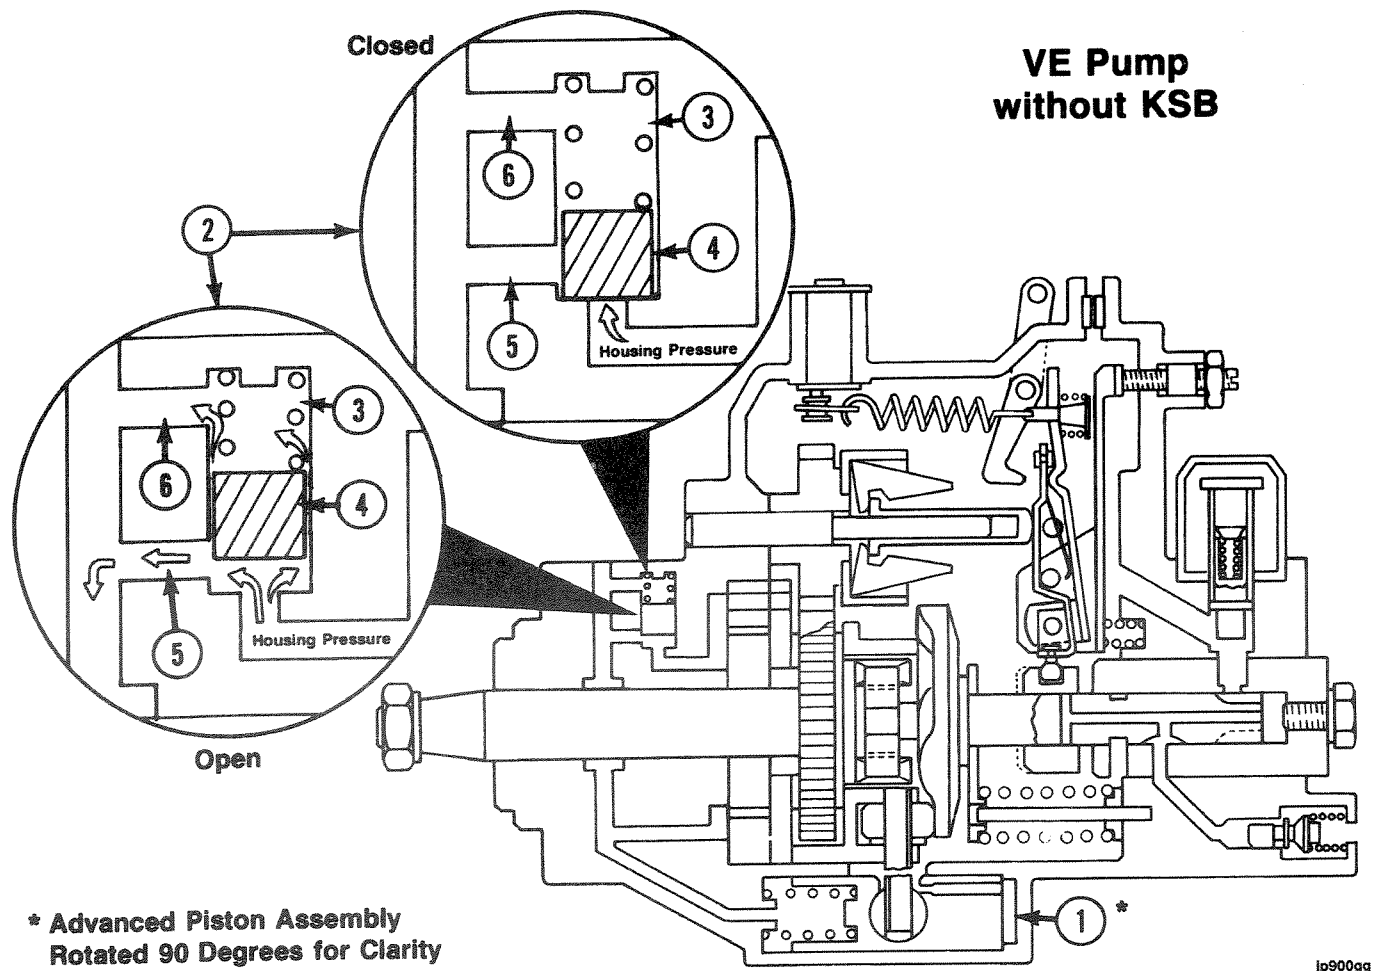
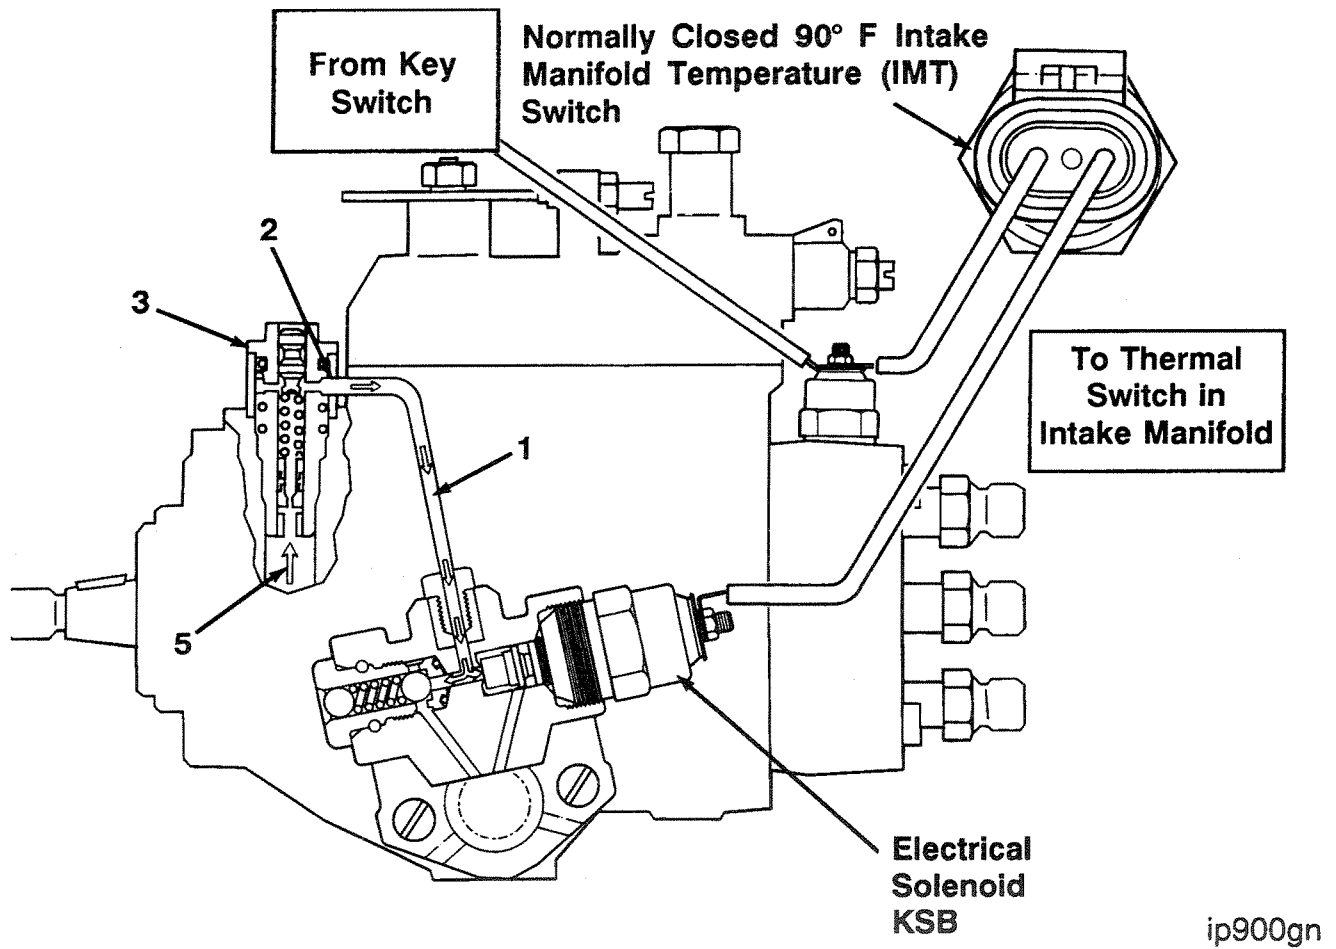

Figure 1, VE pump timing, regulated by opening and closing the pressure regulator valve
Figure 3: Cold Engine Operation (Less Than 90°F IMT), Advanced Timing
Pump housing pressure acts on an internal timing piston (1), Figure 1, to partially advance the injection timing at idle, and fully advance the timing when the engine RPM reaches approximately 60% of rated speed. As pump pressure increases, timing advances.
The KSB introduces a new fuel line (1), Figure 2, which routes fuel from the relief port (2) of the pressure regulator valve (3) to the plunger end (6), Figure 3, of the electrical solenoid, bypassing the normal return passage (6), Figure 1.
With the key switch on, current flows from the key switch line to the 90°F normally closed intake manifold switch to the 12V electrical KSB solenoid (see Figure 2). When the engine starts the pressure regulating valve (3) attempts to regulate fuel pressure as before (without KSB) but the fuel from the relief port (2) now meets a 'dead end' at the plunger of the KSB solenoid (6), Figure 4. With the key switch on, the plunger moves outward and closes off the flow of the fuel (8), Figure 4. This action hydraulically locks (closes) the pressure regulator slider valve (4), Figure 1.
The electrical solenoid style KSB is also equipped with a pressure relief valve (7), Figure 3. If the engine is taken to high idle with the KSB solenoid plunger in the closed position (6), Figure 3, housing pressure can increase enough to rupture the fuel pump housing. The pressure relief valve (7), Figure 3, will pop off its seat before this occurs, however. At a pressure of 4 bar (60 psi), the pressure relief valve (7), Figure 3, opens and allows fuel to drain through an alternate flow path (9), Figure 3.